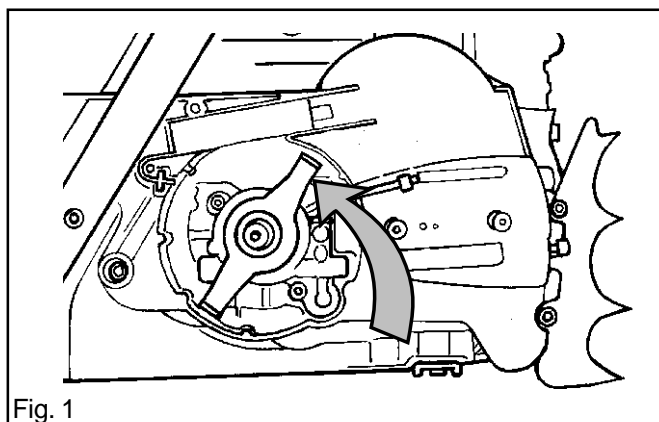

Fig. 1
3. Dismantle the drive wheel. See fig. 1.
- The metering unit, A in fig. 1.